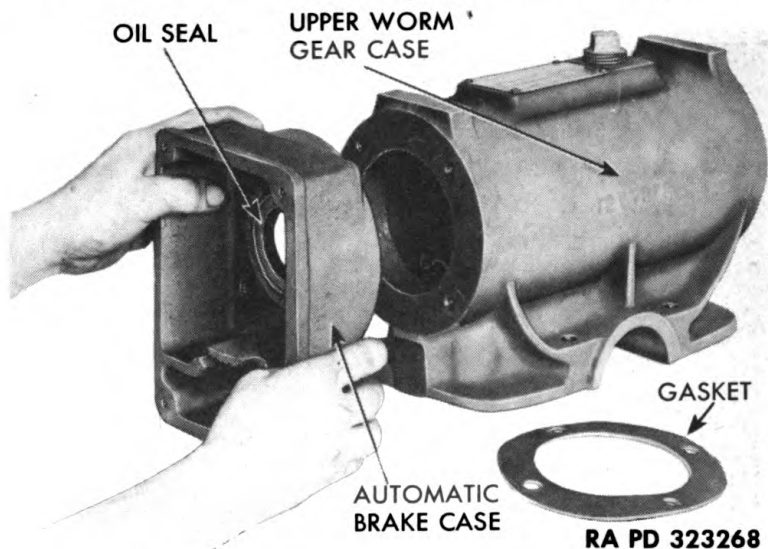

Figure 275 — Removing Automatic Brake Case
k. **Remove Automatic Brake Case** (fig. 275). Remove four cap screws and lock washers attaching brake case to upper worm gear case, and remove brake case. Peel off gasket. **NOTE:** *Do not remove brake case from upper worm gear case unless repair or replacement of either part is necessary.*
a. **Install Automatic Brake Case (fig. 275).** Place new gasket on front of upper worm gear case, and place brake case against gasket. Install four cap screws and lock washers.